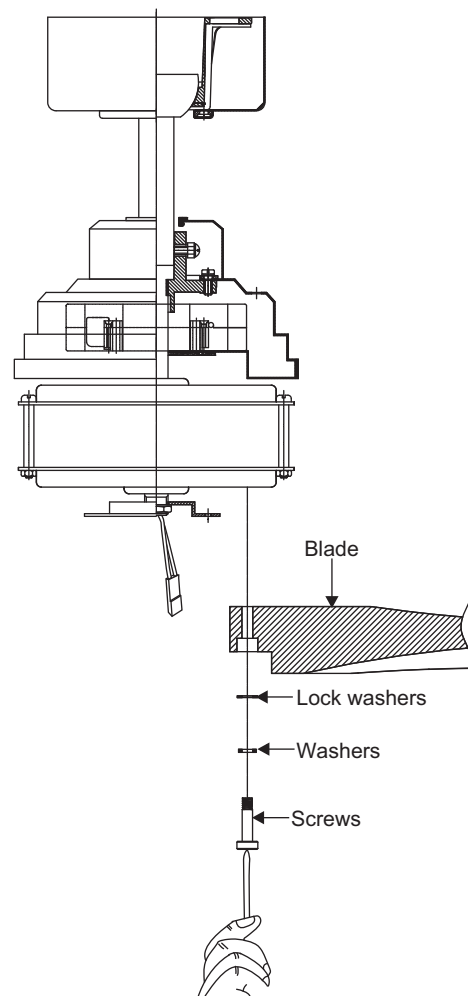

Figure 11
Step 1. Align the holes from the blade to the holes from the motor, and secure the blade in place with screws, washers and and lock washers provided. (Fig. 11)